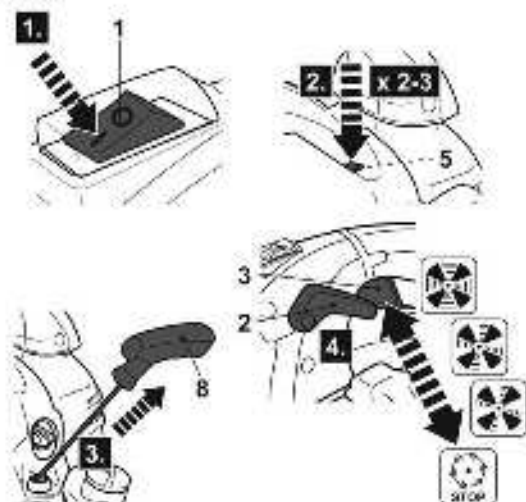

Fig. 17
- > Set the ignition switch (1) to the ON position I (Fig. 17, step 1).
- > Press the primer (5) 2 to 3 times (Fig. 17, step 2).
- > Ensure the choke (7) is on the position RUN.
- > Pull the recoil starter handle (8) lightly until you feel resistance then pull it rapidly until the engine starts (Fig. 17, step 3).
- > Have firm grip on the handles. For vacuuming operation, grip the product with both hands, the left hand on the auxiliary handle (13) and the right hand on the main handle (4); for blowing operation, grip the product with the right hand on the main handle (4).
- > Squeeze the throttle trigger (3) to start the operation (Fig. 17, step 4). The speed is controlled by how far the throttle trigger is depressed.
- > Use the lock-on lever (2) to lock the throttle trigger (3) in position for continuous operation if required.